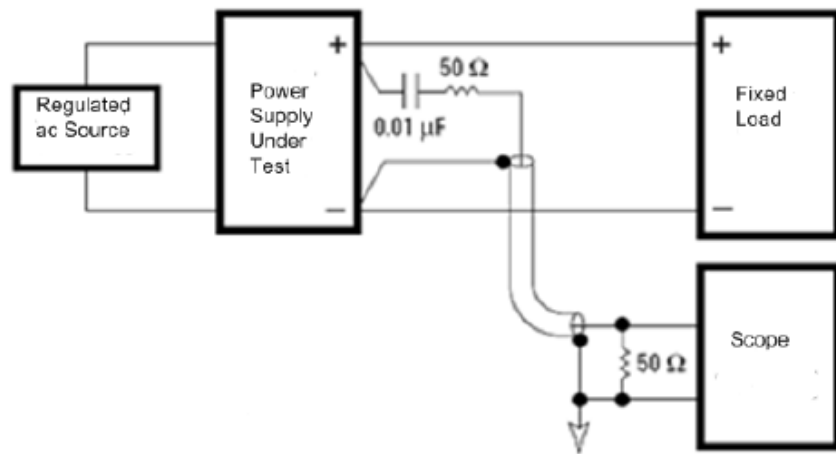

Figure 3-3 Peak-to-peak ripple/noise measurement setup
- 1 Turn off the power supply and connect the output to be tested as shown in Figure 3-3 to an oscilloscope (ac coupled) between (+) and (-) terminals.
- 3 Connect a resistive load (1.2 Ω for +6 V supply and 25 Ω for ± 25 V supplies) as shown in Figure 3-3 (see Table 3-2).